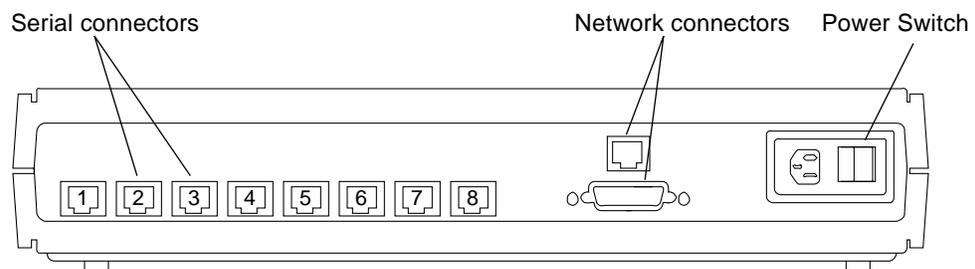

Figure 9-1 Terminal Concentrator Connector and Power Switch Location
1. Power off the terminal concentrator by using the AC power switch located on the back panel (Figure 9-1).
- b. Power on the terminal concentrator by using the AC power switch located on the back panel (Figure 9-1).